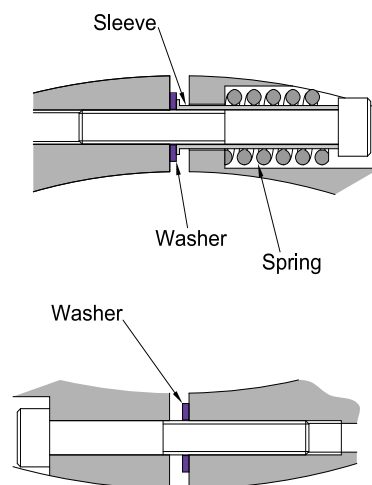

Figure 41 – Rope Guide Inner Band Spring and Sleeve Arrangement
- Figure 41 . Loosely tighten the socket head capscrew.